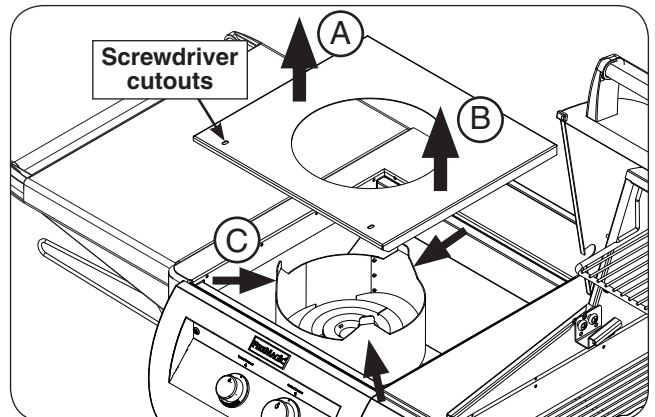

Fig. 49-3 Interior protection plate removal
9. Lift up the interior protection plate from the left side, then lift up from the right side (see Fig. 49-3, A and B).
10. While lifting the plate upward, flex the collimator inward to completely free the protection plate (see Fig. 49-3, C).